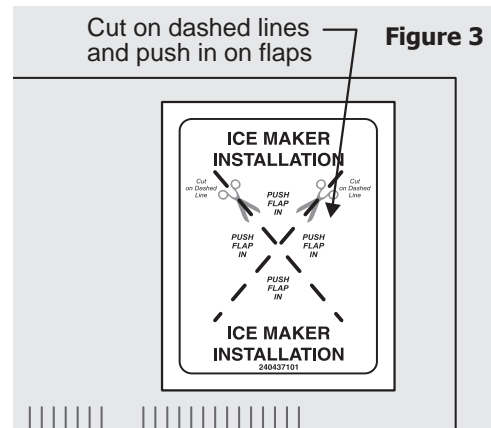

Figure 3
7. Use small kitchen knife to cut Ice Maker Installation label on dashed lines located on outside rear panel of refrigerator in top, right corner. See Figure 3. Push flaps inward until they stick to unit.